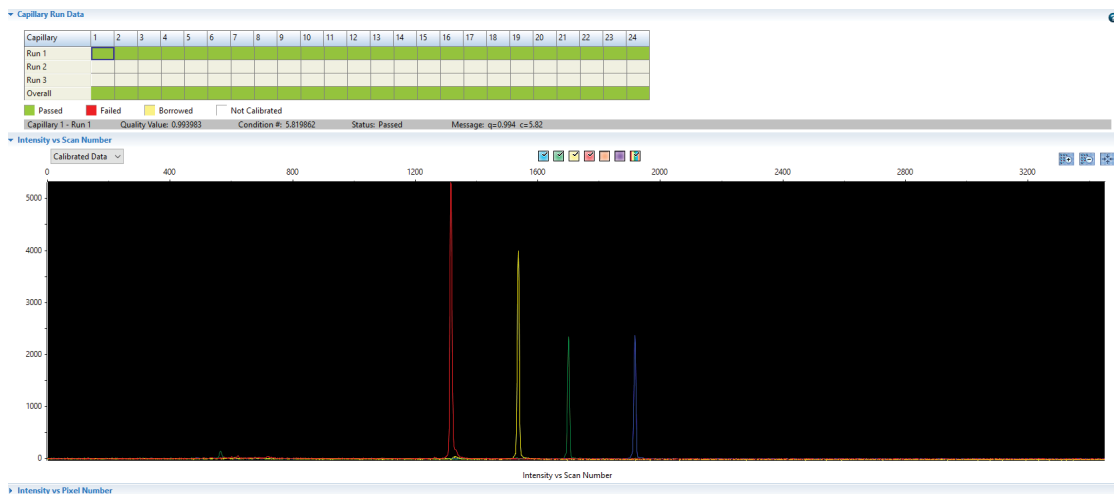

Figure 4. The Capillary Run Data display.
- If fewer than the recommended number of capillaries pass, the spectral calibration run may be repeated automatically up to three times. Upon completion of the spectral calibration, check the quality of the spectral in the Capillary Run Data display (Figure 4), and choose either **Accept** or **Reject** (not shown).